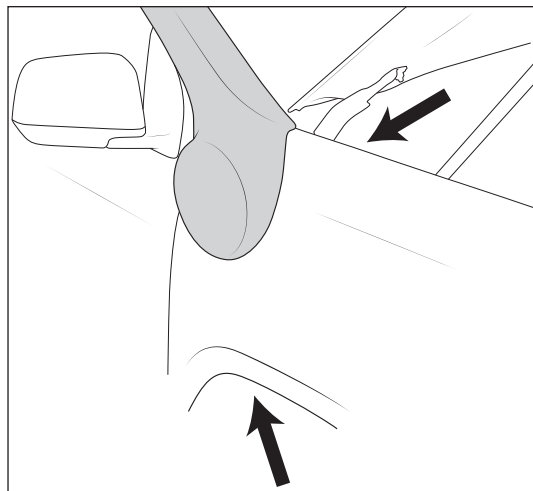

Figure 15
12. Install two M6 Hex head bolts into the back side of the snorkel (fig. 15). NOTE: Bottom bolt you access from inside the fender and the top bolt through the engine compartment.